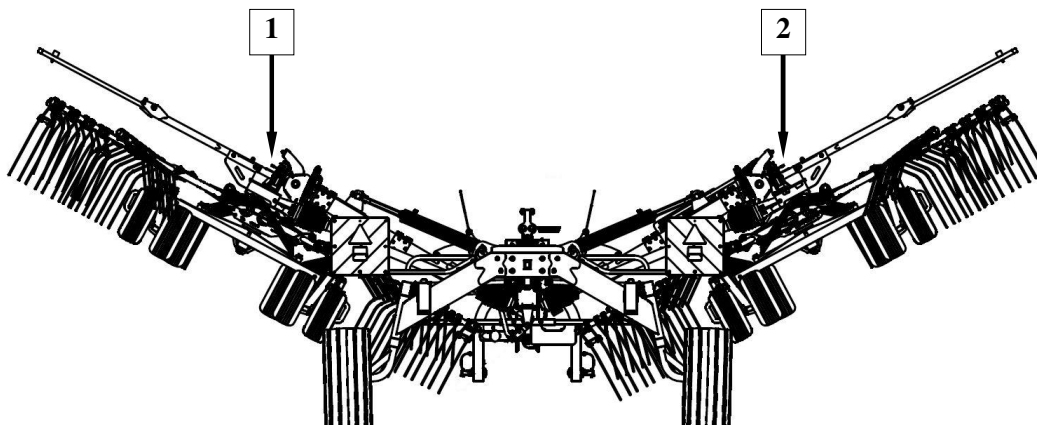

Fig. 26. Taking turns over swaths
For manual adjustment of rake's working width (arms lifted), hydraulic cylinders extension is possible during transport and when taking turns over swaths (Fig. 26).
During lifting of the arms (1) and (2), the lock (3) is automatically closed when taking turns over swaths (Fig. 26).